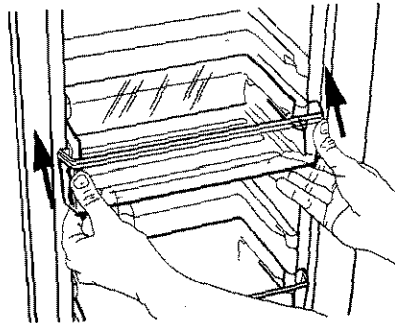

FIGURE 76
3. To install the Chiller Bucket, slide bucket into grooved area until the tabs lock into place. See Figure 76.